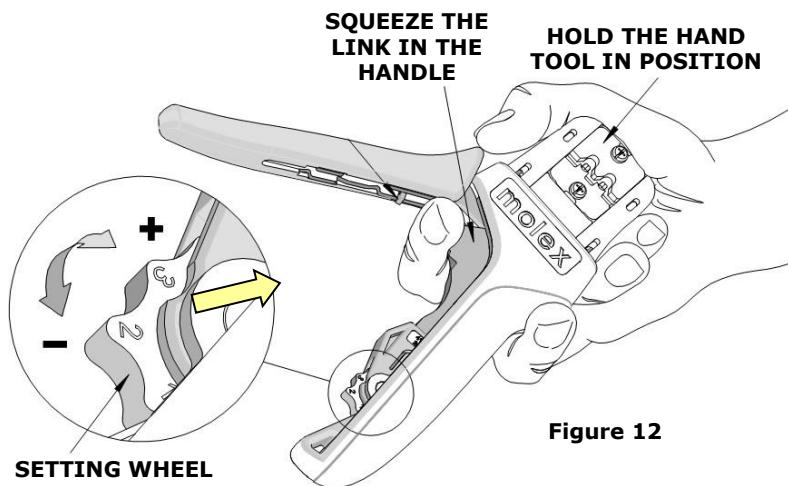

Figure 12
How to Adjust Tool Preload (See Figure 12)
- Hold the hand tool in the palm of your hand as shown in Figure 12. Using your index finger, squeeze the link toward the top of the hand tool frame. This will release the preload setting wheel.
- Rotate the setting wheel counterclockwise (CCW) to increase handle force. The numbers will display higher. To decrease handle force, rotate the setting wheel clockwise (CW).